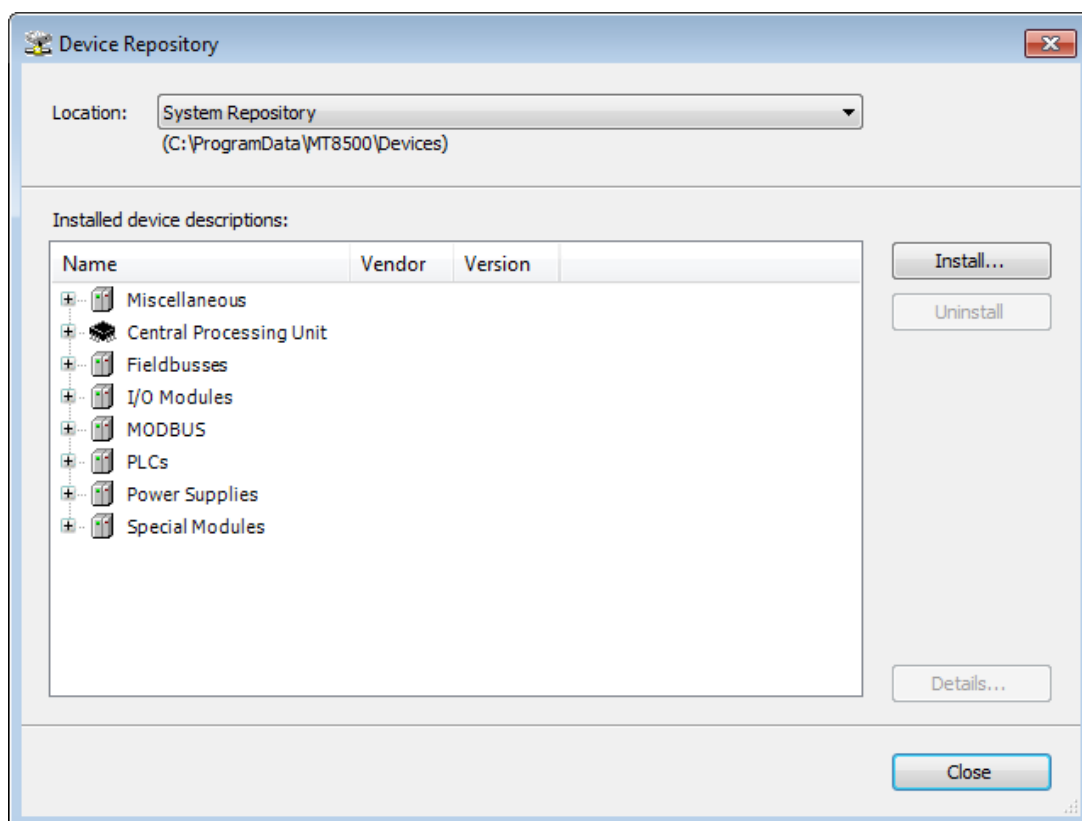

Figure 7-116. Device Repository
- *Installed device descriptions:* The currently installed devices are listed in a tree structure, each showing the Name, Vendor name and Version of the device. The devices tree may be structured by categories like for example "PLCs" and "Miscellaneous" (Figure 7-116). If applicable open or close the tree entries via the plus and minus buttons.